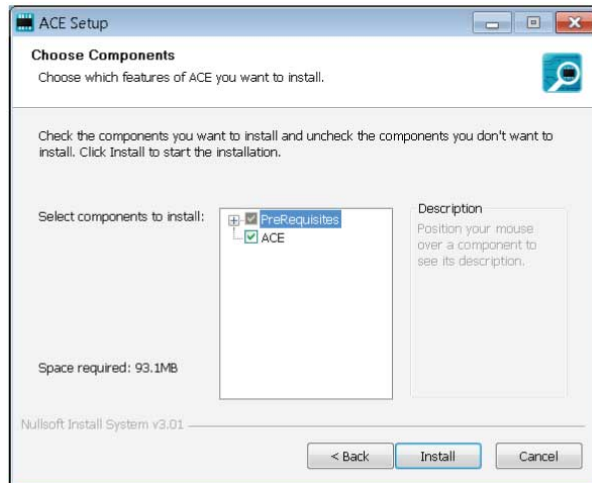

Figure 11. Choose Components
7. Select the **PreRequisites** checkbox to include the installation of the SDP-H1 driver. Click **Install** (see Figure 11).